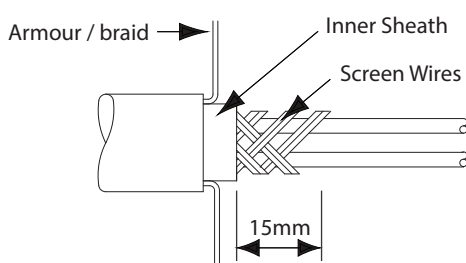

Fig. 1
- 2.2 Remove a further 15mm of inner sheath (Fig. 1).